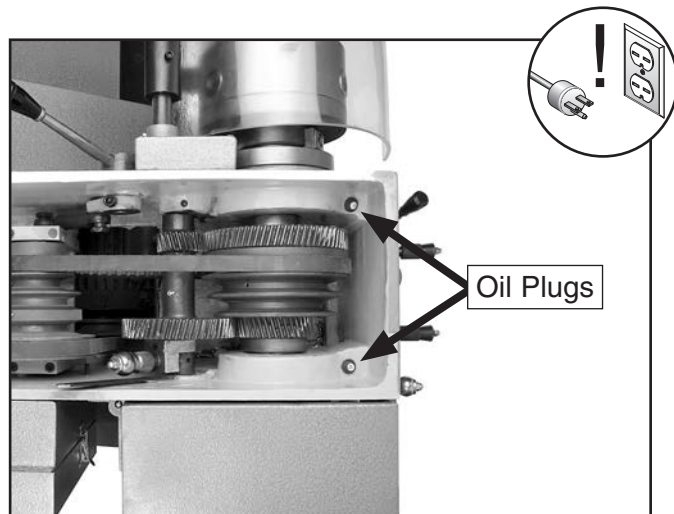

Figure 78. Spindle bearing reservoir oil plugs.
1. Raise the headstock cover, then remove the oil plugs shown in **Figure 78**.
2. Remove the oil plugs shown in **Figure 78**.